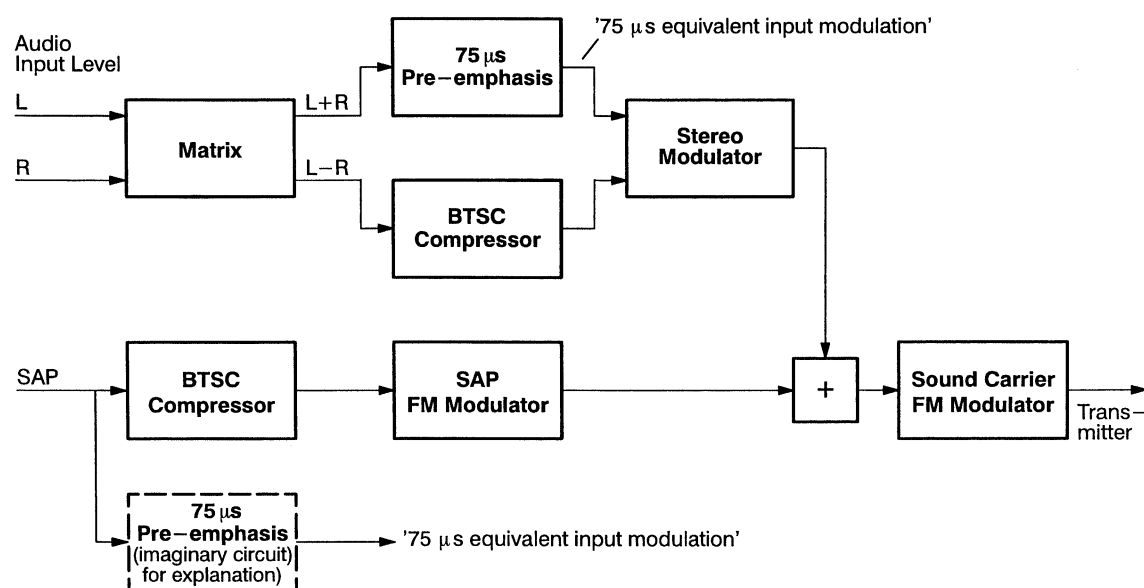

Fig. 2 Simplified Diagram of a BTSC Transmitter System
The broadband baseband spectrum is transmitted via frequency modulation on the sound carrier (4.5 MHz). Due to the parabolic noise characteristic, which is typical for FM transmission systems, the noise level increases for higher frequencies. To improve the Signal-to-Noise Ratio of the L–R signal and the SAP signal, both channels are encoded by the BTSC Compressor; see Figure 2.
Figure 2 shows a simplified diagram of a BTSC transmitter system. The BTSC modulation standards and the maximum allowed peak deviations are shown on the next page.
- The maximum allowed audio input level of 100 % modulation (100 % \triangleq 0 dB) is frequency dependent due to the 75 μ s pre-emphasis; see Figure 2.
This is used as a reference and determines the modulation level that would occur for the equivalent Mono signal processed via a 75 μ s pre-emphasis; see Figure 2.